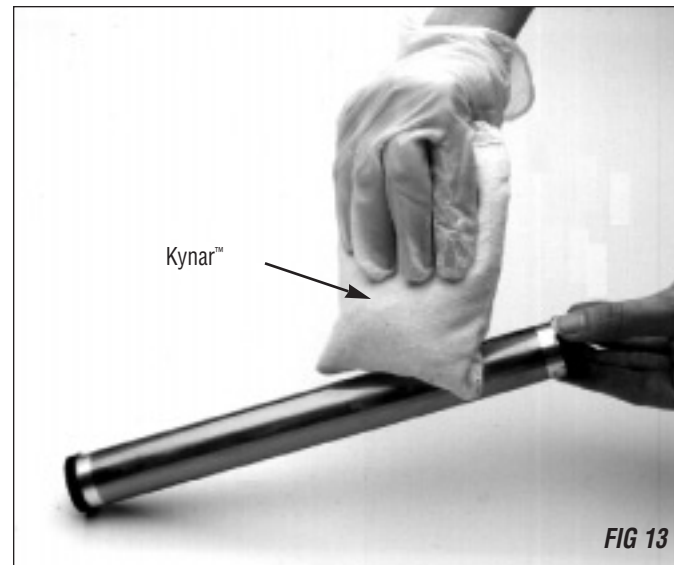

FIG 13
- Pad the coated surface of the replacement drum with Kynar® powder. Be careful to avoid Kynar® on the gears. (See Figure 13)